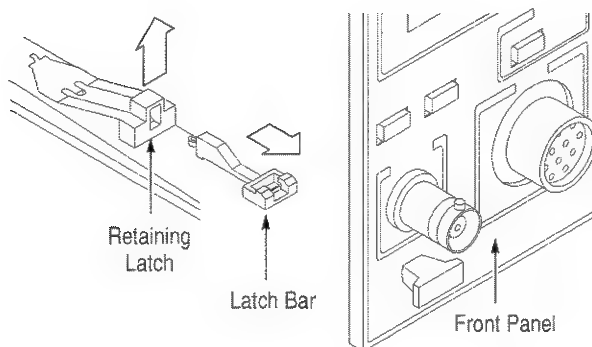

Figure 7-5: Removing the Latch Bar Assembly
6. Push the latch bar forward until it clears the the retaining latch. Refer to Figure 7-5.